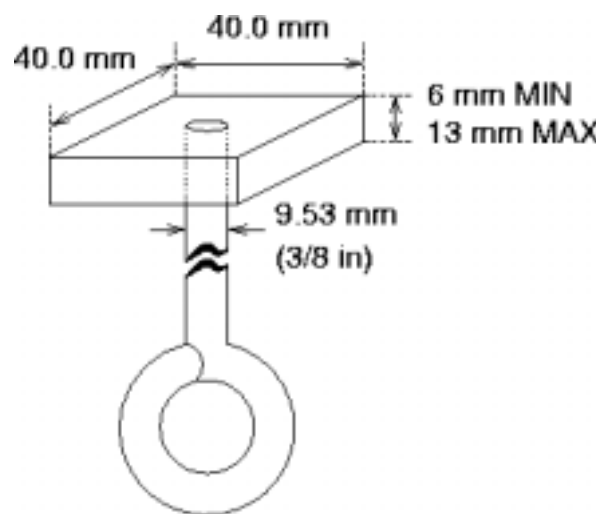

Figure 2. Loading plate detail (not to scale)
- c. The bridge must be constructed to provide support for the load (see section 3b) at each of the two loading positions described. Any portion of the structure below the loading planes must provide clearance for the threaded rod of the eyebolt which extends below the loading plate (see Figure 2).
- b. The load will be applied by means of a 40 mm square plate that is at least 6 mm but less than 13 mm thick. A 9.53 mm (3/8 inch) diameter eyebolt is attached from below to the center of the plate (see Figure 2). During loading, the edges of the loading plate will be parallel to the longitudinal axis of the bridge. The load will be applied by means of a loading rod hanging from the eyebolt described above.